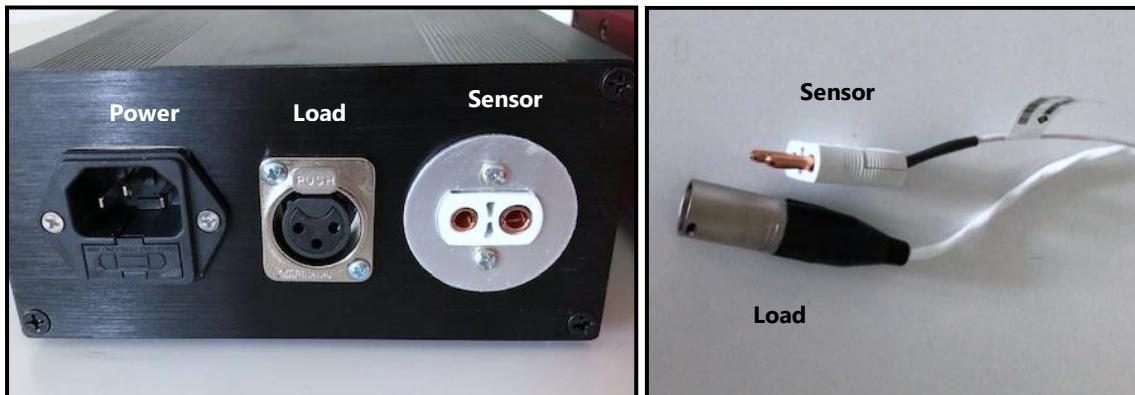

Figure 2. Back of Temperature Controller (left). Cable and plugs (right) for connecting Heating Block to Temperature Controller.
3. The Heating Block Connector Cable, which is attached to the block, has two plugs on the free end for connecting to the Temperature Controller (refer to Figure 2). Connect the round 3-pin plug of the Connector Cable into the receptacle marked "Load" on the back of the Temperature Controller as shown in Figure 2. Also on the back of the Controller, connect the 2-prong plug of the Connector Cable into the receptacle marked "Sensor".